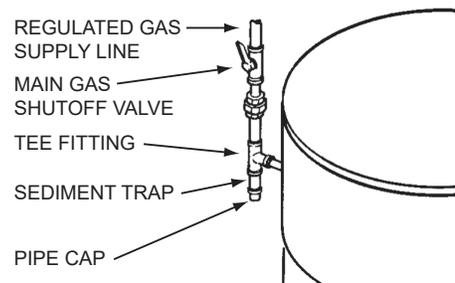

Figure 58. Supply Gas Line Installation
Ensure all gas pipe is clean on the inside before installation. To trap any dirt or foreign material in the gas supply line a sediment trap must be installed as shown in **Figure 58**. The sediment trap must be readily accessible and not subject to freezing conditions. Install in accordance with the recommendations of the local gas utility company.
- Install a sediment trap as shown in **Figure 58** (page 50).
- Install a Main Gas Shutoff valve in the supply gas line as shown in **Figure 58** (page 50).
1. For test pressures exceeding 1/2 psi (3.45 kPa) disconnect the water heater and its Main Gas Shutoff Valve from the gas supply piping system during testing, see **Figure 58** (page 50). The gas supply line must be capped when disconnected from the water heater.